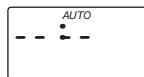

fig. 6
- To cancel a preset program, press the timer button **A** or **B** once and then press the hour button until the display shows "--:-" (fig.6).